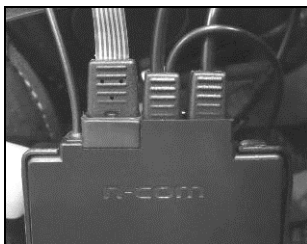

Fig. 10
- Gently position the connector in its seat until it is all the way in (Fig. 10).